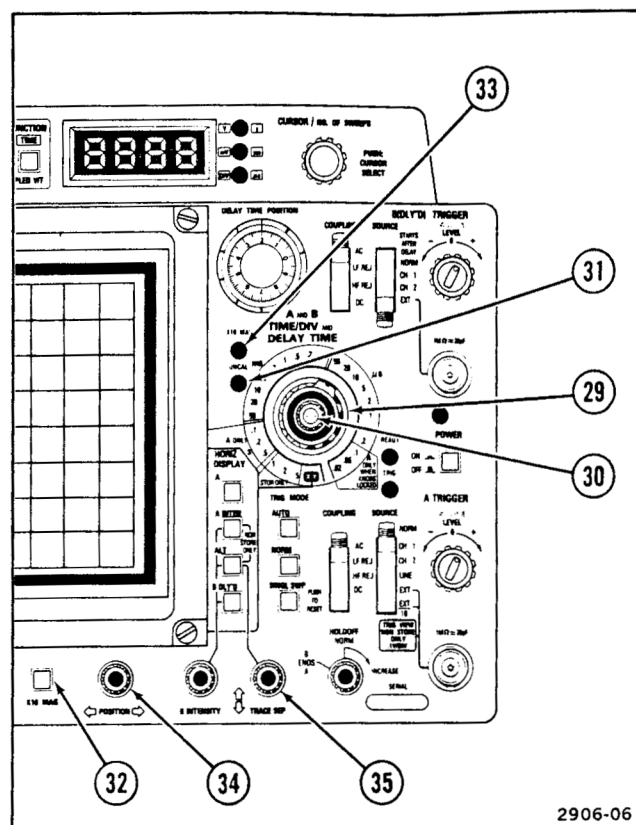

Figure 2-6. Sweep rate and position controls and indicators.
Refer to Figure 2-6 for location of items 29 through 35.